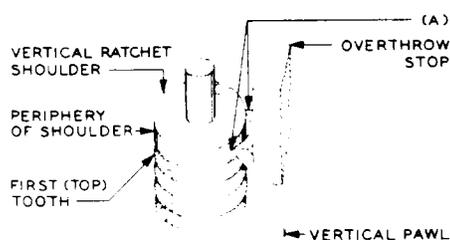

Fig. 15—Position of Vertical Pawl and Method of Checking Vertical Pawl Position
**3.21 Vertical Pawl Position:** With the pawl resting on the shoulder of the vertical ratchet above the top tooth (Fig. 15, location A), both corners
**Note:** To check the vertical pawl position, raise the vertical pawl finger from the vertical pawl guide. At the same time, operate the vertical armature manually so the pawl tip will ride on the outside surface or periphery of the vertical ratchet shoulder, as shown in Fig. 15. Check the requirement by moving the armature and pawl to the left or right, as required, as far as the vertical armature and pawl sideplay will permit.